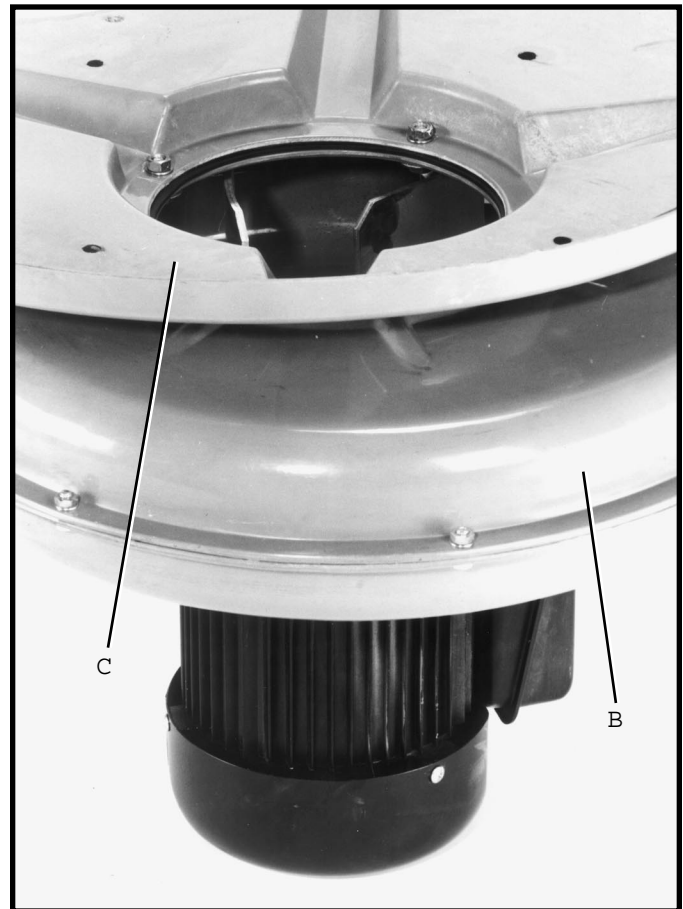

Fig. 4
2 Fig. 4, illustrates the cover (C) assembled to the underside of motor and blower assembly (B).